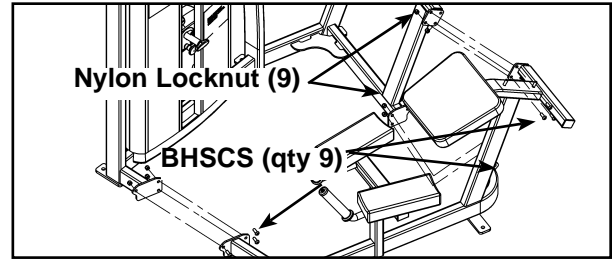

Figure 1
- D. With an assistant, carefully remove the nine BHSCS securing the two halves of the frame. See Figure 1.
- F. With an assistant, carefully attach each half together using the nine BHSCS removed in step 4D. See Figure 1.